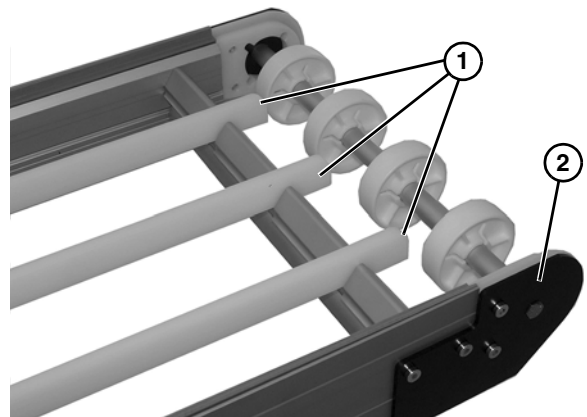

Figure 38
*The rounded ends of top wear strips (**Figure 38, item 1**) faces the idler end (**Figure 38, item 2**) of the conveyor.*